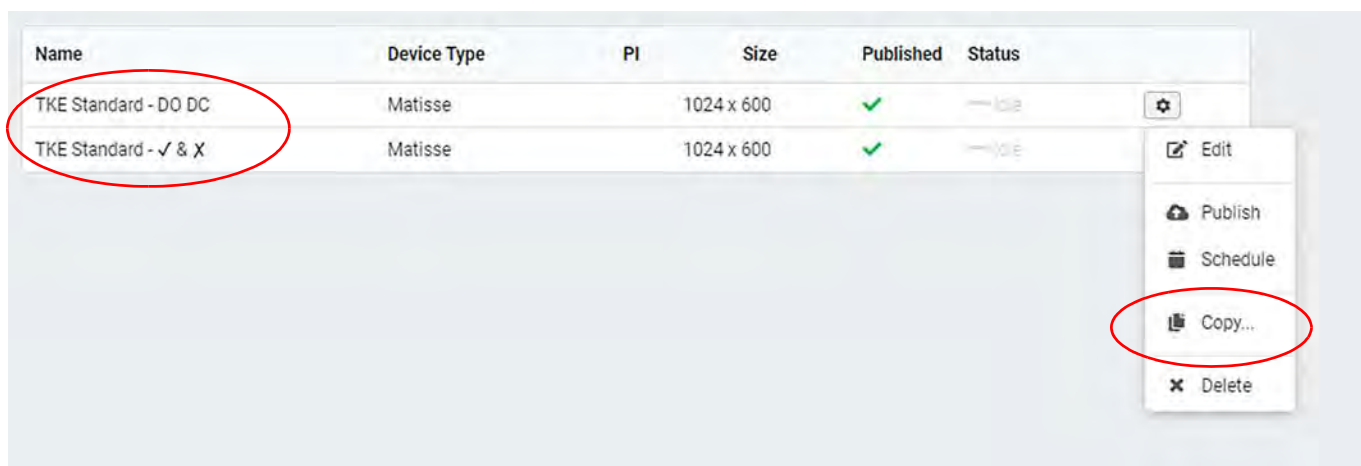

Figure 16 - Schedule Matisse Theme Screen (1 of 2)
2. Select correct theme based on button type used for yes/no response, and touch **Copy**. See Figure 16.